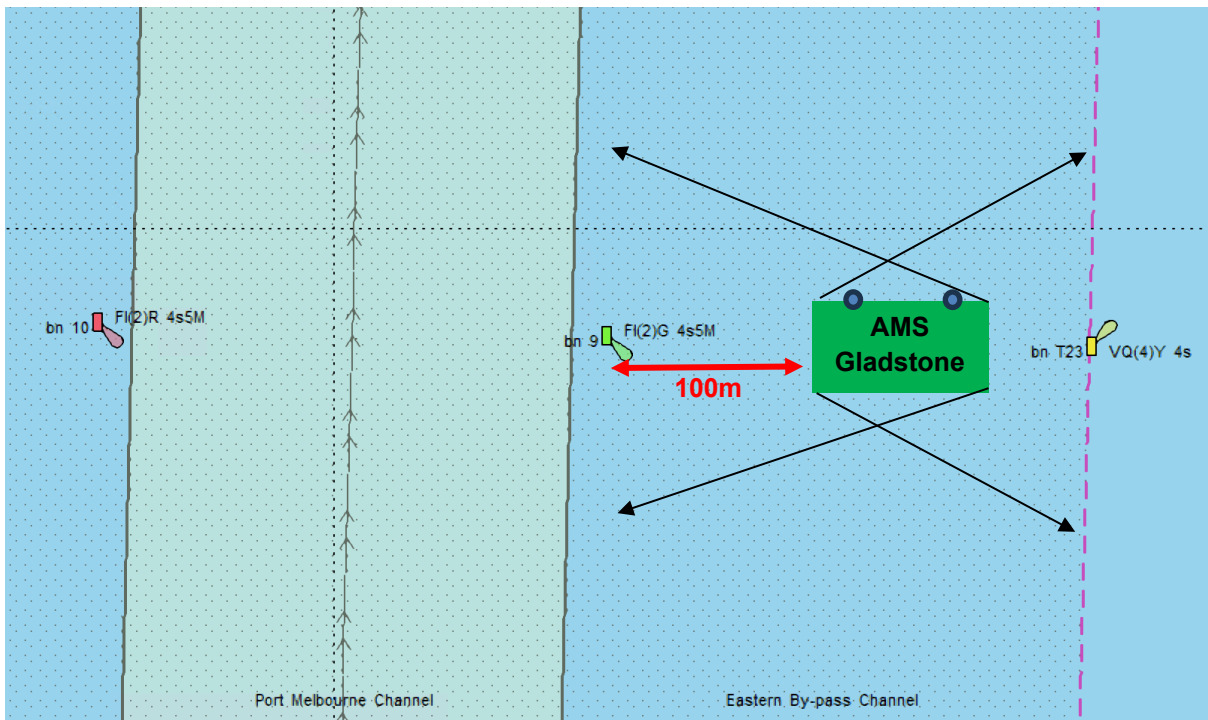

Figure 4
3. *AMS Gladstone* may be moored and **unattended** in adjacent waters to beacons **3, 7, 9, 70, 73, 74, 76, 78 and 79** (figure 4). Beacon 8 not included.